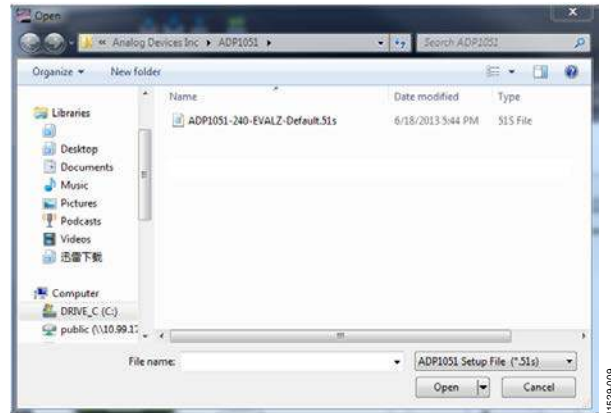
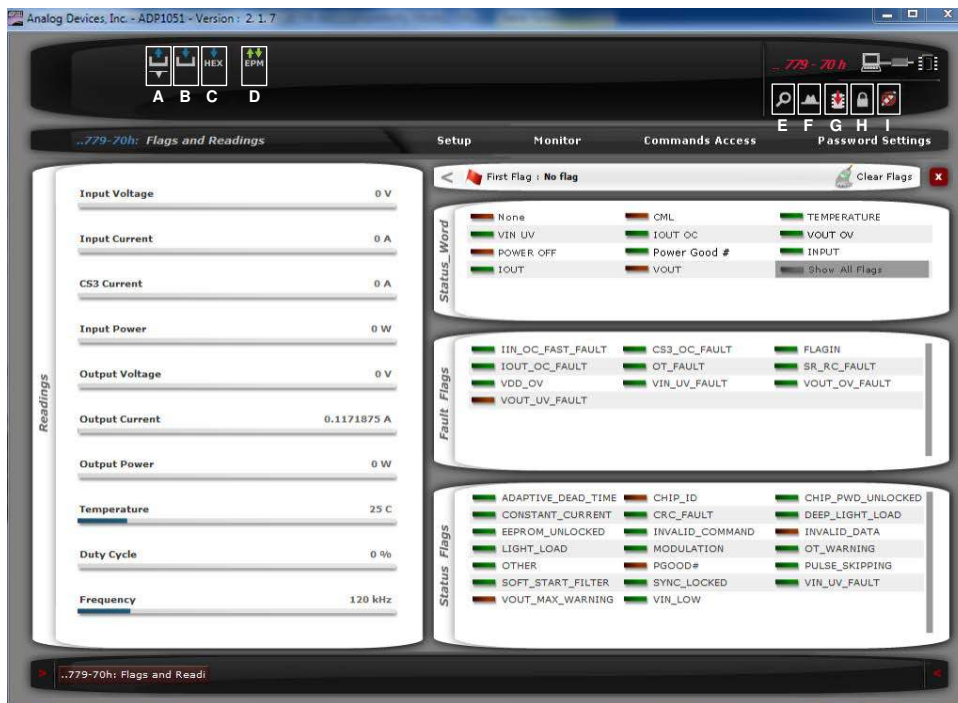
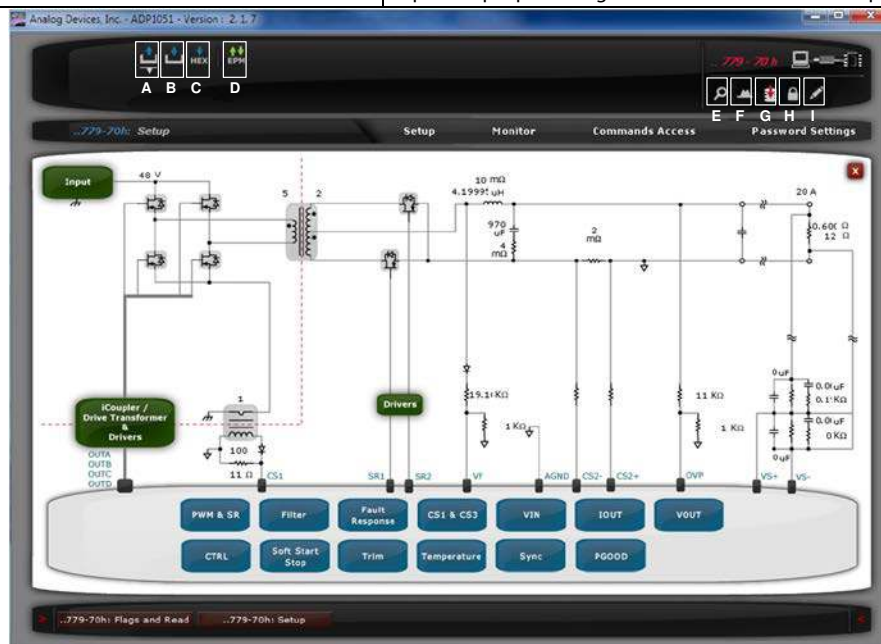

Figure 9. Load Board and Command Settings File
Figure 10. Monitor Window in the GUI
Figure 11. Main Setup Window of the ADP1051 GUI (See Also Table 8)
7. Click **Finish** to proceed to the **Monitor** window (see Figure 10).
8. Click **Unlock Chip Password** (Button I in Figure 10) and enter the chip password in the following pop-up window. The default chip password is 0xFFFF. Click **Enter** after keying in the password to process the **Setup** tab as shown in Figure 11.
If the user wants to load the default command and board settings file from a local folder, click **Load Command and Board settings from a '.51s' file to ADP1051** (Button A in Figure 11) and select the **ADP1051-240W-EVALZ-Default.51s** file when specifying the folder as shown in Figure 9. Because the **ADP1051** in the evaluation kit is preprogrammed with the board and command settings, this step is optional.
After completing the programming of **ADP1051**, click **Program command and board settings into EEPROM** (Button G in Figure 11) to program the command and board settings into the EEPROM once the user wants to save the settings in the device.
Moreover, the user can use the **Save Command and Board settings from ADP1051 to a .51s file** button (Button B in Figure 11) to generate a .51s file for the command and board settings.
Figure 11 shows the main window. There are four tabs total in the main window: